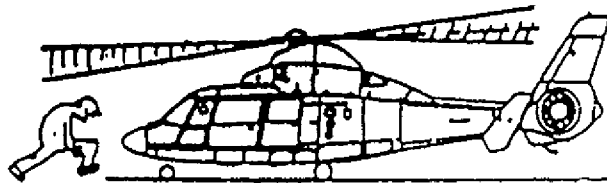

Fig. 4 Posture for access to and moving away from the helicopter
- 2) Be careful to the main rotor and walk with your back bent (Fig. 4)